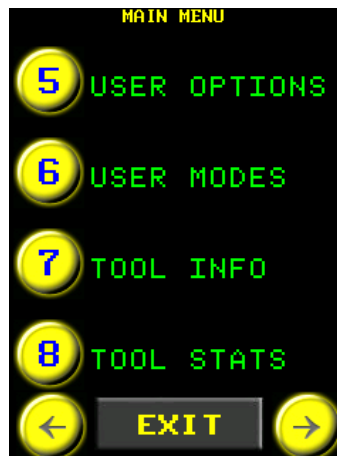

Figure 5.6-1: Main Menu
2. Select “User Options” from the Main Menu (Figure 5.6-1).